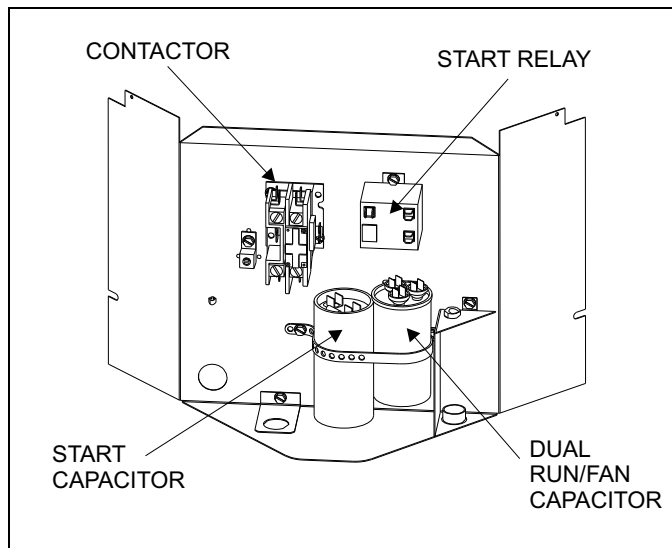

FIGURE 5
1. Use the two pilot holes to attach start relay. See Figure 5.